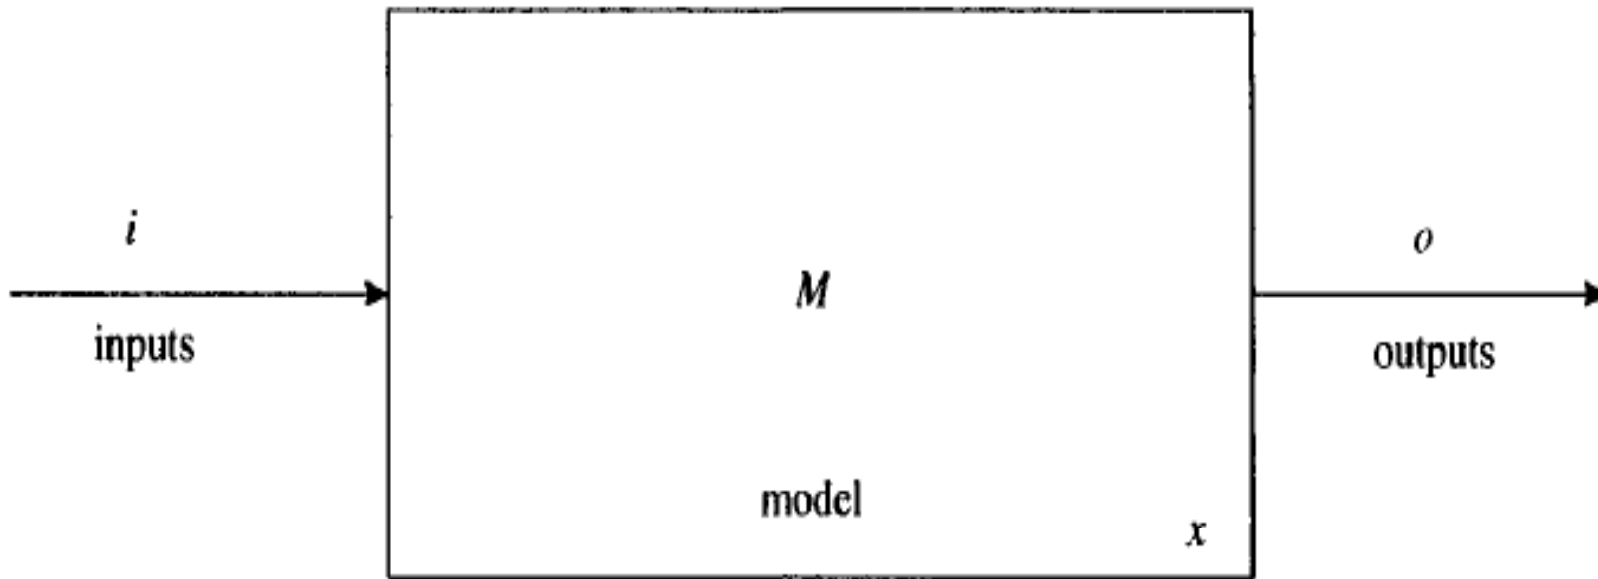

Fig. 2.1 General model schematic
- A system is influenced by its surroundings or environment via its *inputs and generates influences* on its surroundings by its *outputs which occur through its boundary*. This is seen in Fig. 2.1.